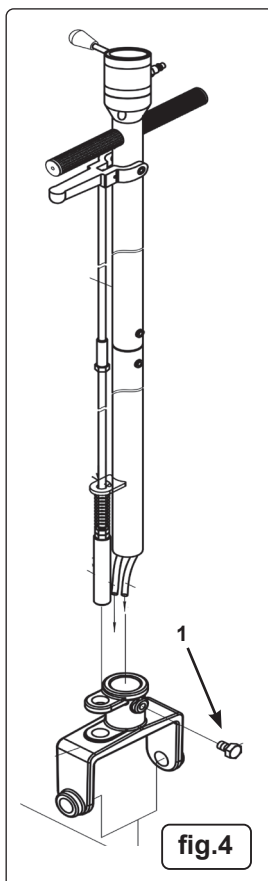

fig.4
- 5.5. Slide the handle assembly into the hole in the yoke (fig.4) and fix in place using the screw (fig.4.1).